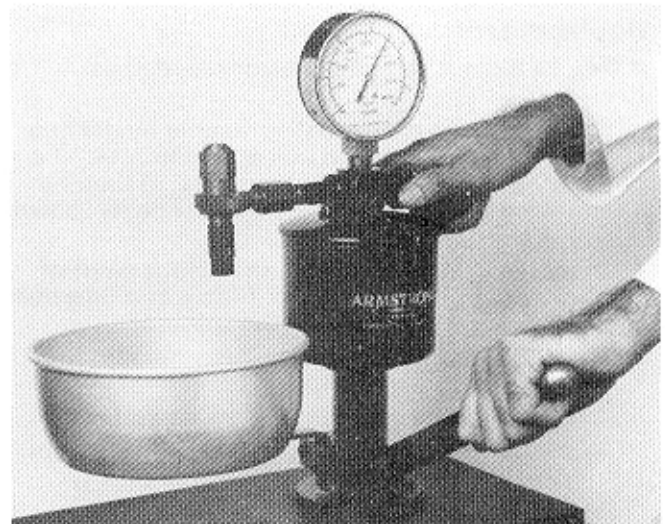

Figure 3.12 Testing the Fuel Injector using a Test Rig
**3.48** Using the test rig (Figure 3.12) test and set up the fuel injector as follows: